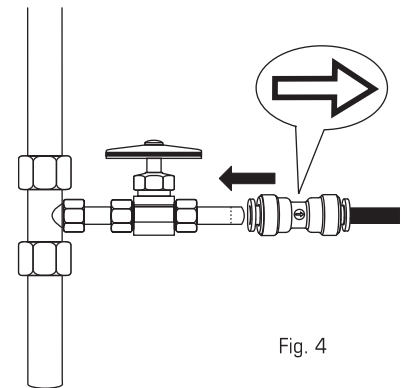

Fig. 4
4. **Insert** the tube from the cold water supply to the screen side of the Supply Connector attached to the red tube of the pressure regulator assembly, a-c, (Fig.1), until it meets the line or the line disappears. Arrow on supply connector should point away from tap water tee (Fig. 4).